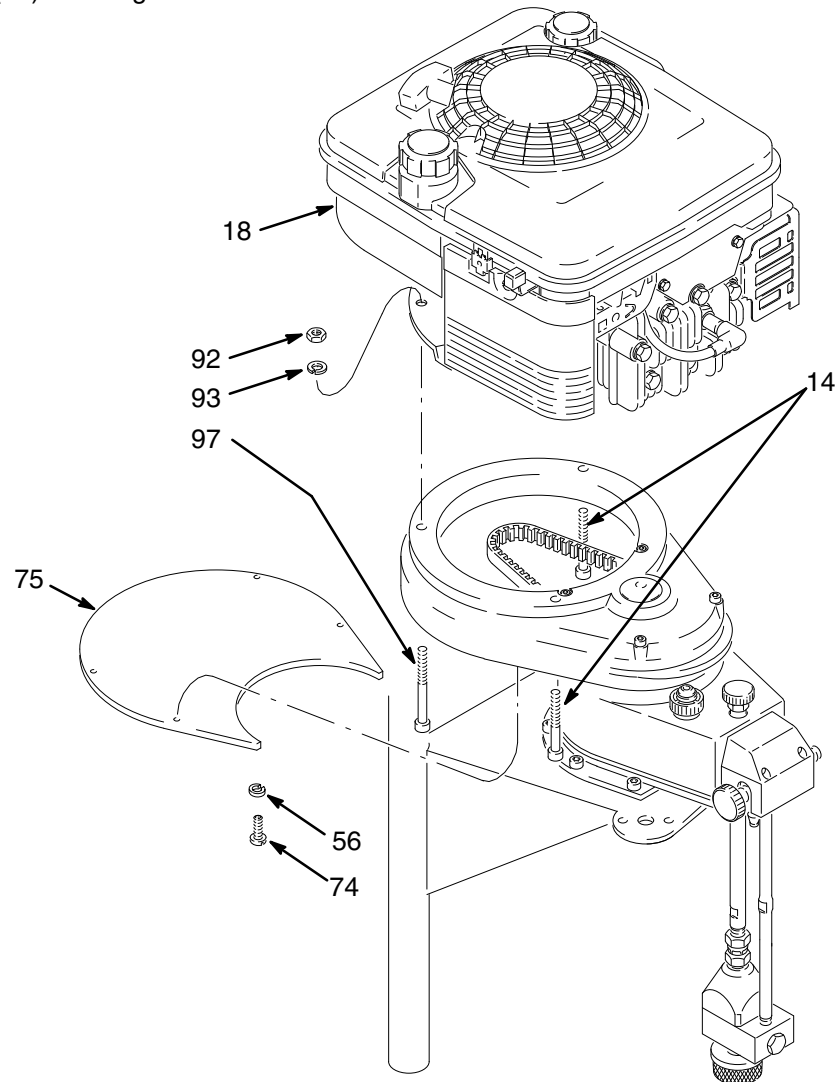

Fig. 31
2. Remove the shield (75): remove the six screws (74) and lockwashers (56). See Fig. 31.
3. Remove the engine (18): reach inside the drive housing and remove the capscrews (two of 14, one of 97), along with the lockwashers (93) and nuts (92) on the engine flange. See Fig. 31.